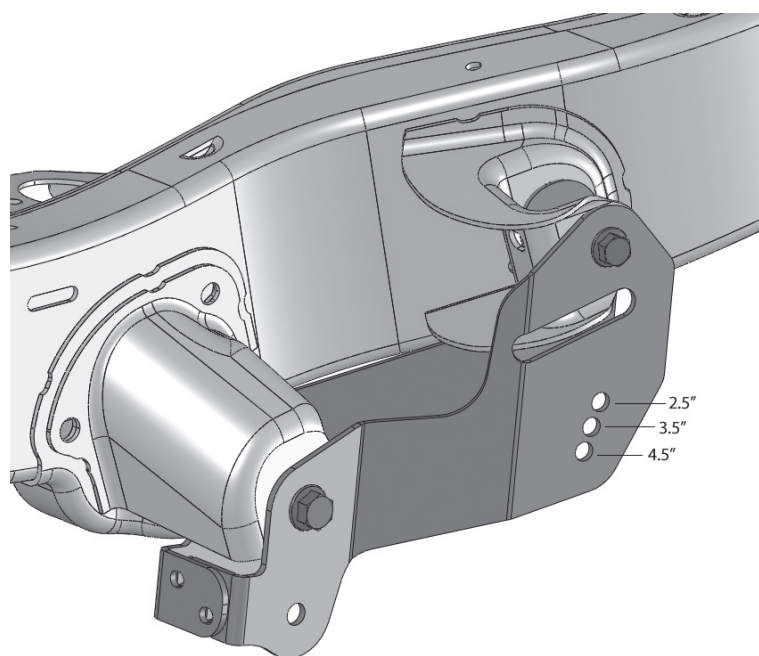

Figure 3
6. NOTE: There are three relocation holes in the brackets for mounting the upper control arms. For the AEV 2.5" Suspension Kit use the upper hole location, the AEV 3.5" Suspension Kit use the middle hole location, and for the AEV 4.5" Suspension Kit use the bottom hole as shown (Fig. 3).
4. If your measurement is from 5 ½ to 6 ½ inches you'll install the upper control arm in the upper hole location (2.5") as illustrated in Figure 3.
5. If your measurement is from 6 ½ to 8 inches you'll install the upper control arm in the middle hole location (3.5") as illustrated in Figure 3.
6. If your measurement is from 8 to 9 inches you'll install the upper control arm in the lower hole location (4.5") as illustrated in Figure 3.